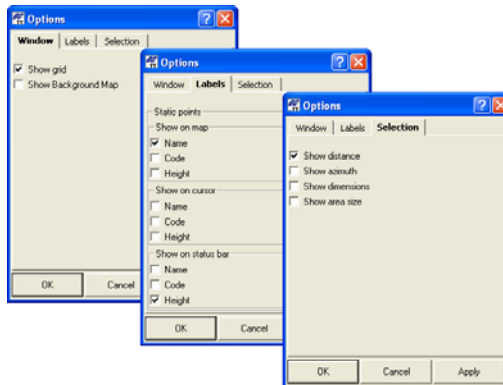

Figure 4-54. Window, Labels, Selection Tabs of the CAD View Options
2. On the *Show* tab, enable the desired settings (Figure 4-54). Click **Apply** to save the settings and make further changes.
4. On the *Selection* tab enable the desired settings (Figure 4-54). Click **Apply** to save the settings and make further changes.